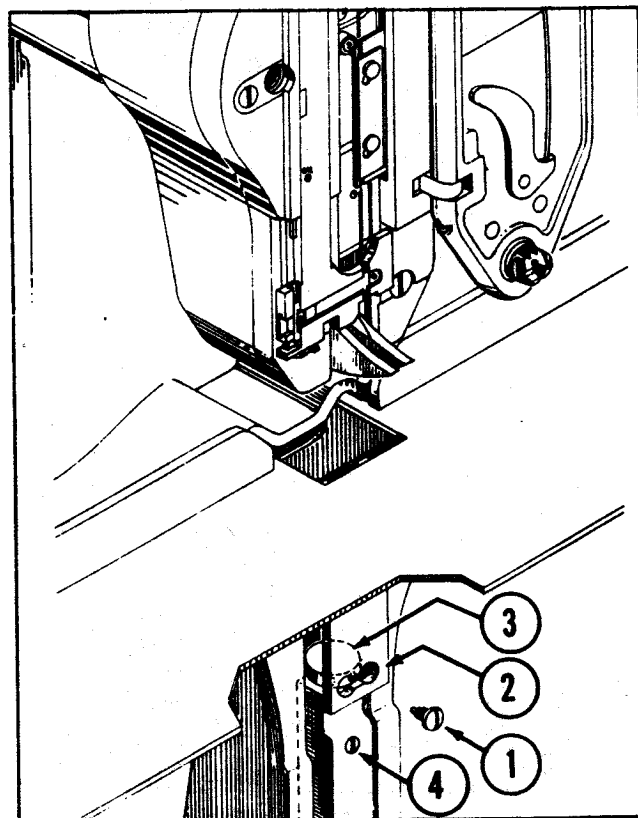

Figure 9—Raising or Lowering Clinchers
a. Loosen adjustment lever eccentric bushing screw (1) sufficiently to release the knurled eccentric bushing (2).
b. If longer staple legs is required, turn the eccentric bushing (2) clockwise (toward front of Stitcher); if shorter staple legs is required, turn the bushing counter-clockwise (toward rear of Stitcher).
c. After adjusting the eccentric bushing, tighten the bushing screw (1), turn over machine a few revolutions and check staples. If legs are still not the required length, repeat steps a and b until perfect staple is obtained. (With a little experience the operator will soon learn how far to turn the eccentric bushing to obtain the desired staple leg length.)
d. After final adjustment has been made, securely tighten the eccentric bushing screw (1).
8. HOW TO RAISE OR LOWER CLINCHERS (See Fig. 9.)